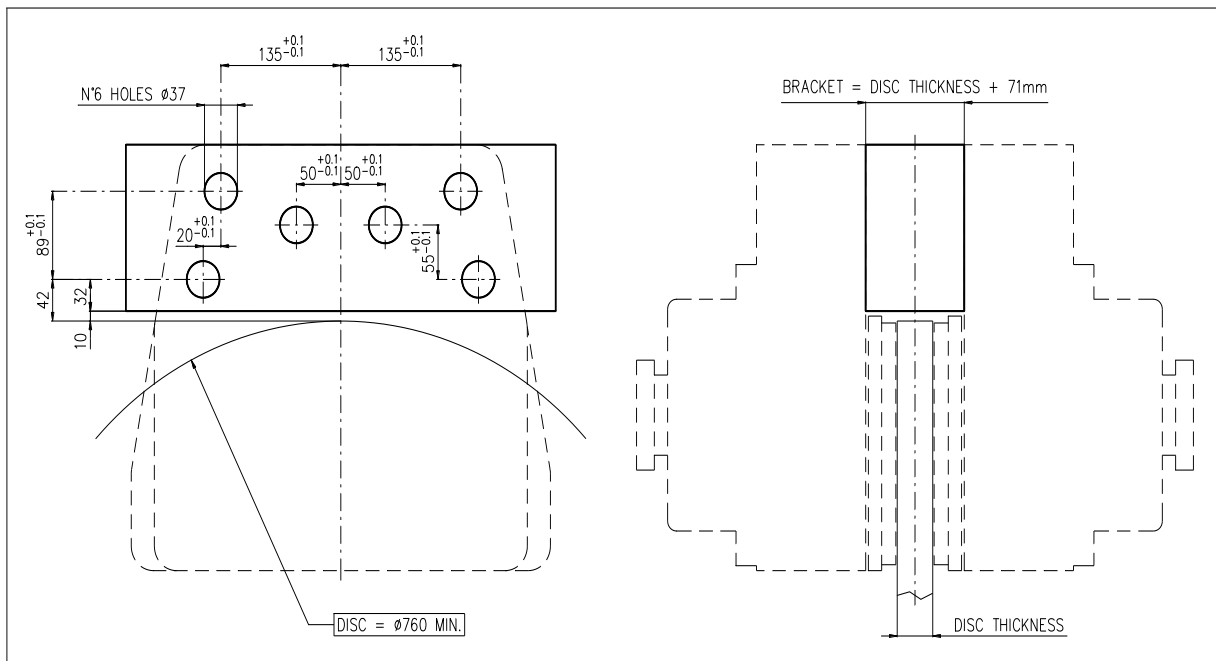

Figure 1
- The ID 3000N brake must be installed on a bracket having the same thickness as the disc + 71 mm (Figure 1).